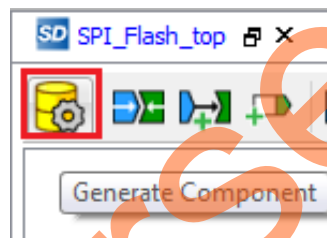

Figure 14 • Generate Component
1. To generate the required drivers click **Design > Configure Firmware** and clear all drivers except CMSIS, MMUART, PDMA, and SPI as shown in Figure 14.
2. From the **SPI_Flash_top** tab, click **Generate Component**, as shown in Figure 14.